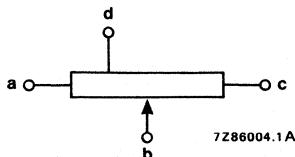

Fig. 1 Designation of terminals.
**Nominal resistance ( $R_{nom}$ )** — Nominal value of the resistance between the end terminals a and c (Fig. 1), the wiper b at end-stop position.
**Maximum dissipation ( $P_{max}$ )** — Maximum amount of power which can be dissipated at a given ambient temperature, when the potentiometer is continuously loaded between the end terminals a and c (Fig. 1) and mounted on a steel panel of 100 x 100 x 1,5 mm by means of a nut (or on a printed circuit board for types with printed-wiring pins).